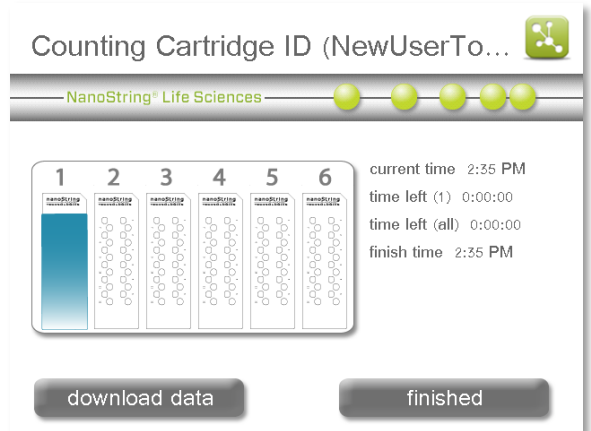

Figure 93: The 'Counting Cartridge ID' screen with completed run information.
- The screen image in **Figure 93** provides an example of a completed run.